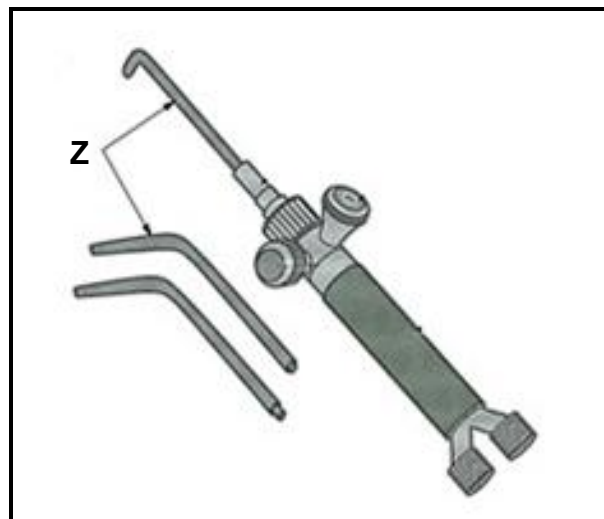

FIGURE 4.4
4.4 FIGURE 4.4 below shows a welding torch. Identify part **Z**.